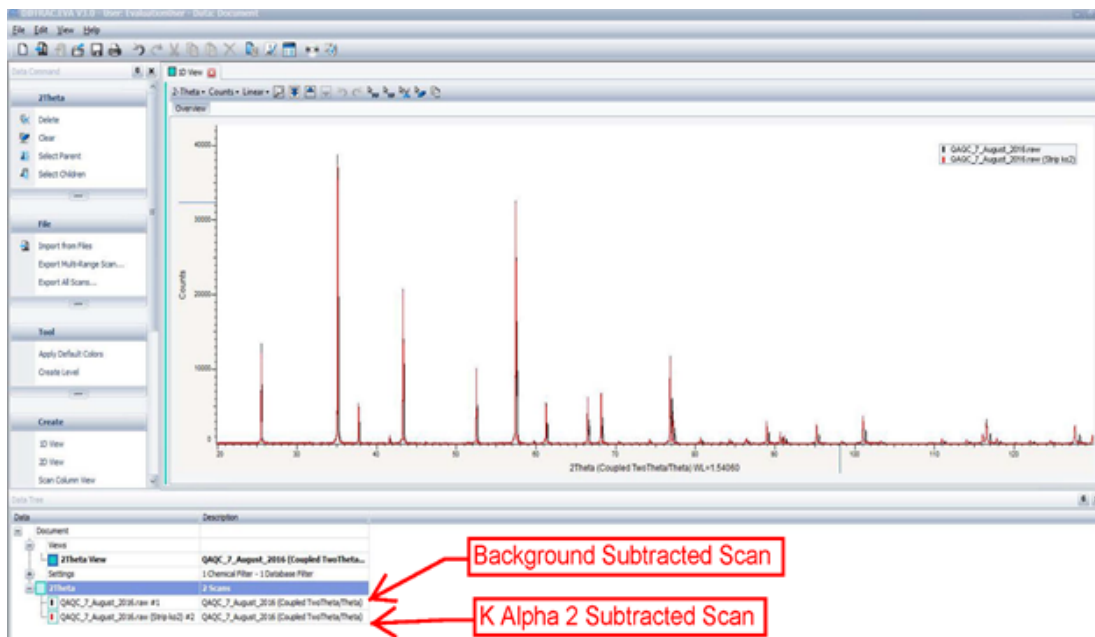

Figure 21. Diffractogram with two scans in Data Tree panel. Top arrow points to the Background Subtracted scan. The bottom arrow points to the K2 scan
(2) Strip K2 Tool
4. In the "Data Tree" panel there are two scans: Background Subtracted Scan and K2 Subtracted Scan (Figure 21). For both of these scans, you will "Create Area" and "Append Area" for four angle ranges. This will insert area information as a subtree entry under that scan.